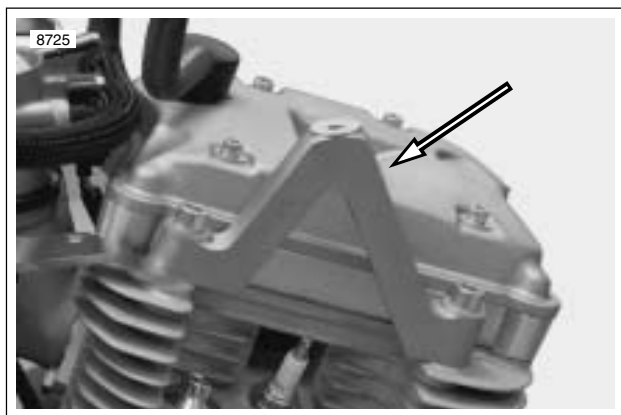

Figure 3-35. Center Tie Bar Mount
- b. See Figure 3-35. Center tie bar mount 25-27 ft-lbs (33.9-36.6 Nm).